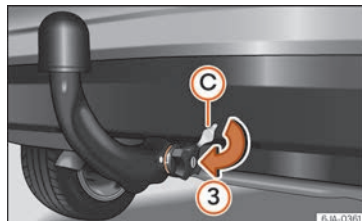

Fig. 237 Placing the key slot cover.
- Place cover **C** over the manual regulator lock in the direction of arrow **3** »» Fig. 237.